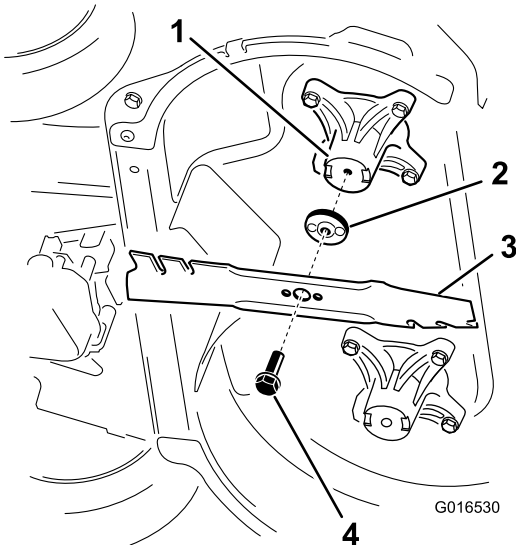

Figure 45
2. Remove each blade as shown in Figure 45.
1. Install the first blade so that it is horizontal, along with all mounting hardware as shown in Figure 45.